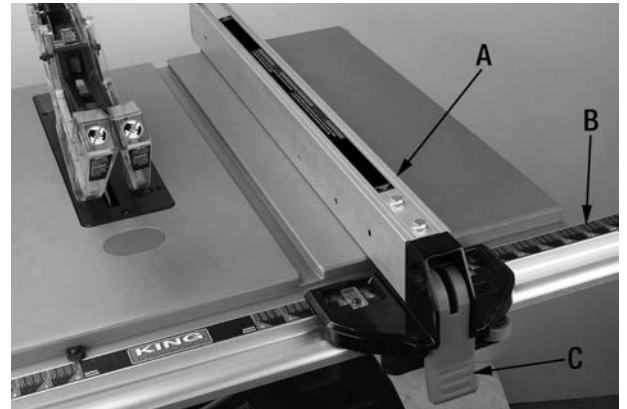
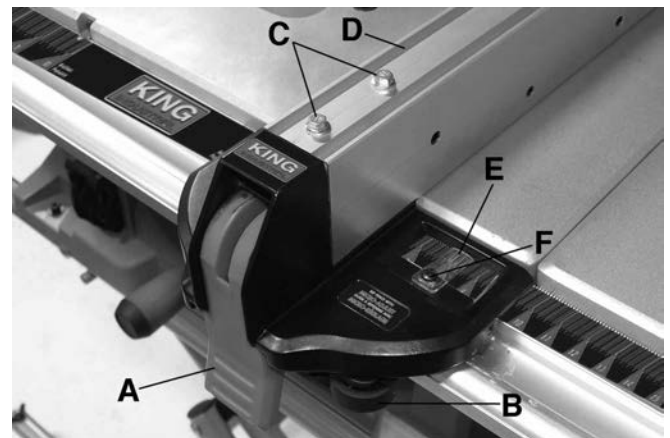

FIGURE 14
FIGURE 15
1. Position the front of the rip fence (A) Fig.14 on the front rail (B). Lower the back end of the rip fence on the rear rail. Check to make sure the rip fence slides freely on the rails.
2. Lower rip fence locking lever (C) to automatically align and secure the rip fence in place.
3. This rip fence comes with a micro-adjust wheel (B) Fig.15 which allows the user to make small adjustments of the rip fence using only one hand. The rip fence lock lever (C) Fig.14 must be raised to the unlocked position to use this feature.
**To reduce the risks of kickback**, the rip fence must be perfectly parallel to the blade. Unlock rip fence by raising locking lever (A) Fig.15. Loosen both hex. bolts (C) Fig.15 on top of the rip fence. Align the rip fence (D) with the blade and retighten both hex. bolts (C). Adjust the rip fence pointer (E) to the same marking by loosening pointer screw (F) and repositioning pointer.